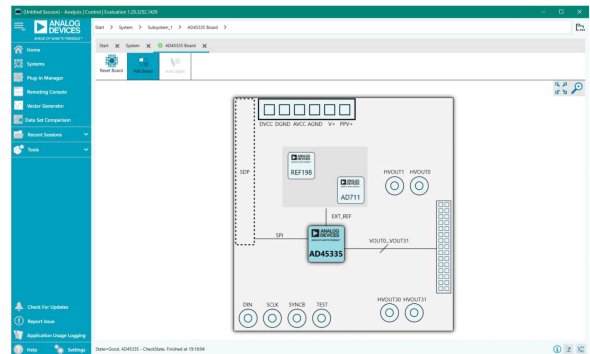

Figure 4. ACE EVAL-AD45335SDZ Board View
5. Double-click on the **AD45335 Board** to open the EVAL-AD45335SDZ view (as shown in Figure 4).